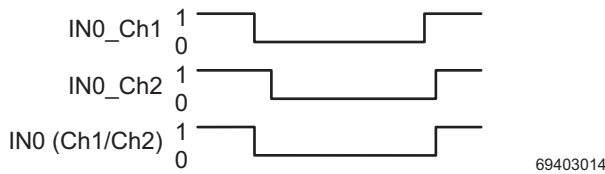
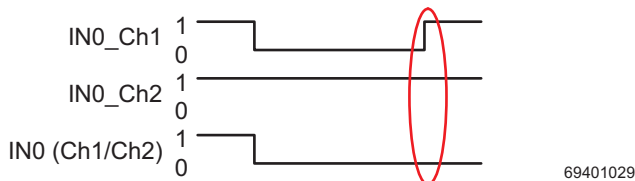

Figure 7-5 **Correct** signal change
Figure 7-6 **Error** during signal change
In Figure 7-6, the condition that both signals must be in state “0” before the change in state from “0” to “1” is not met. In this case, diagnostic message 018xhex is generated.
Key for Figure 7-5 and Figure 7-6
- A “1” is transmitted if a “1” signal is present at both inputs **and** no error has been detected and the conditions are met for a change in state according to Figure 7-6.